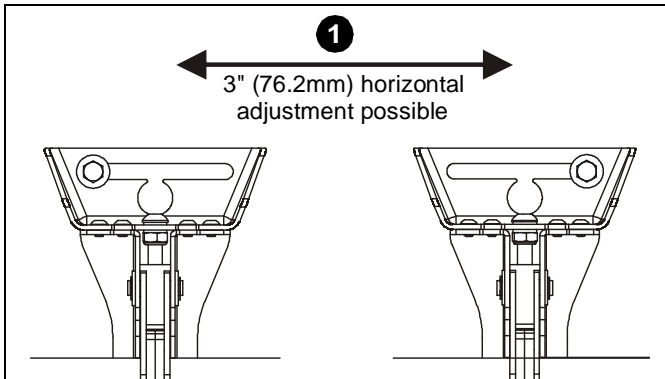

**Figure 15**
1. Turn to right (tighten) to raise side of screen. (See Figure 15)